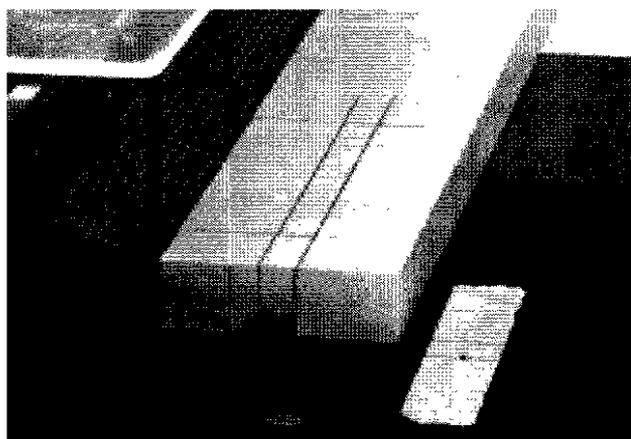

Figure 19 Adjusting the fence position
- Lay your marked workpiece on the Router Table surface and move your MARK V's Pro Rip Fence (with the Pro Fence Router Table Fences attached) in and out to align your bit with the two slot position lines you transferred to the end of your stock. Lock the two Fence Locking Handles. Micro-adjustments can be made by moving the two Fence halves in and out with the two Threaded Handles (2), as covered in the **FENCE ADJUSTMENTS** section. See Figure 19.